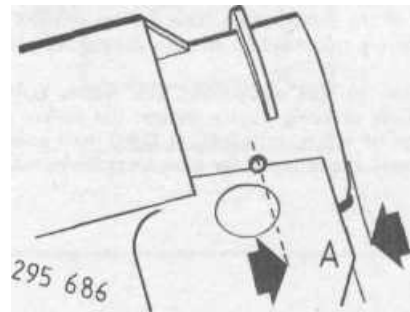

FIG.12.37 STEERING COLUMN LOCK CYLINDER RELEASE HOLE DRILLING DIAGRAM
- 77 To remove the lock cylinder, pull the lock cover plate out of the housing using a pair of pliers. A small hole will now be exposed into which a probe should be inserted to depress the spring which will enable the cylinder to be withdrawn. On some late models this hole may have to be drilled in accordance with the diagram. Use a 1/8 in (3.0 mm) diameter drill (Fig.12.37).